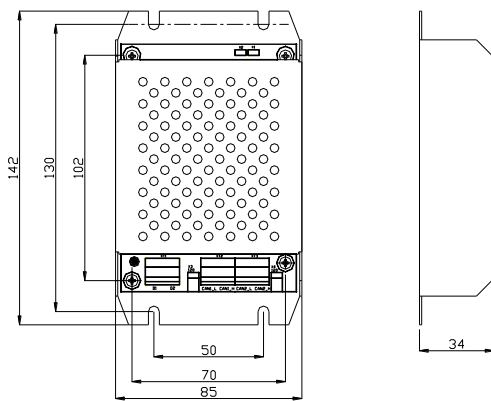

Fig. 1
Appearance of the relay is shown in Fig. 1.
- 2) Dimension of the relay is shown in Fig. 1. Install the relay into the module or inner supporting board of the control panel, fixed and secured by M4 crews.